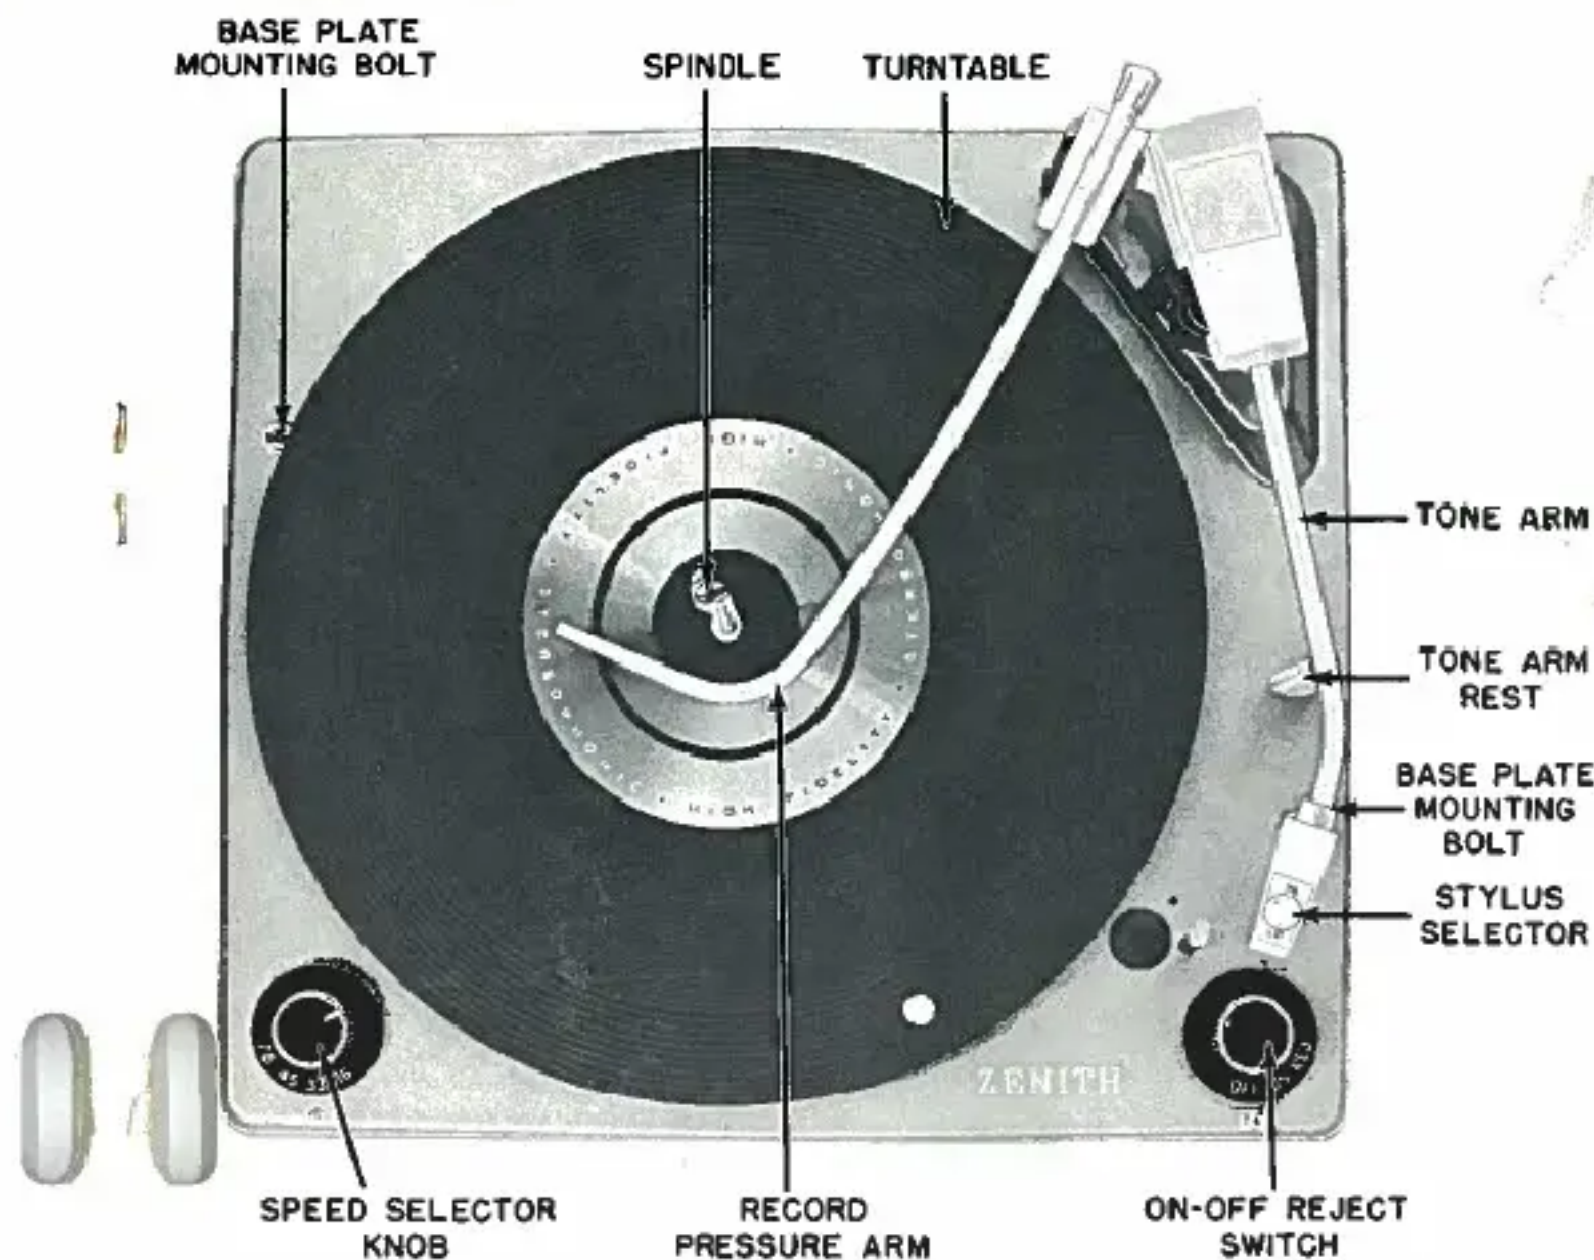

Figure 4—Changer, Top View
3. Rotate the speed selector knob to 78, 45, 33 or 16 R.P.M. position, depending upon the speed of the record being used. (See Fig. 4.)